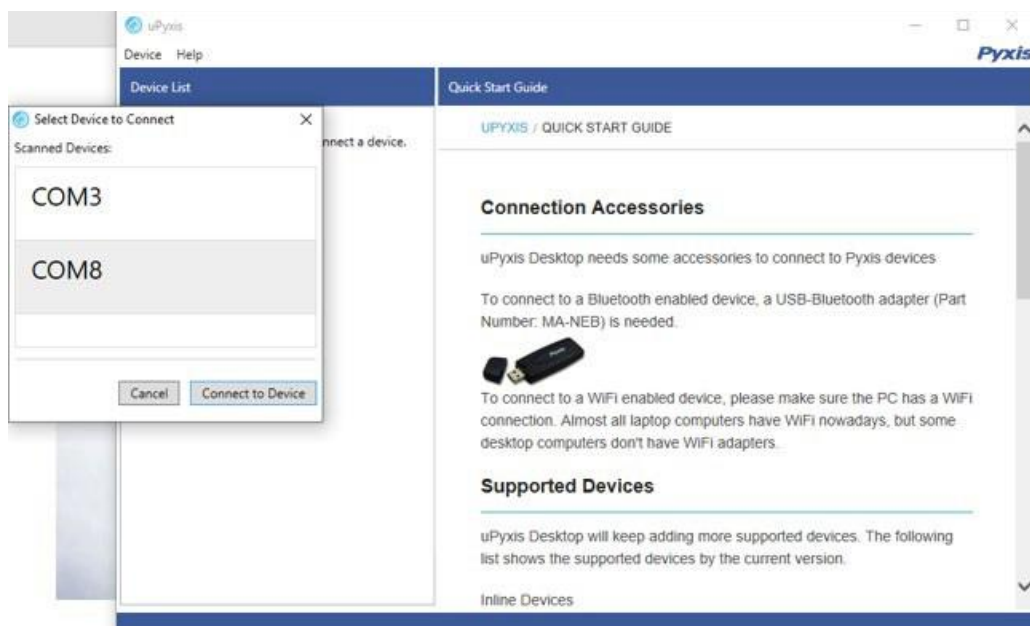

Figure 15. Select a Comm port
- 7) Select the Comm Port to make a connection. Normally only one Comm port is identified by uPyxis (Figure 15). If more than one Comm port listed in the selection dropdown, you may try to select each one to see if a connection can be made. Alternatively, you may use the Windows Device Manager to identify the Comm Port that the Pyxis USB adapter is using.